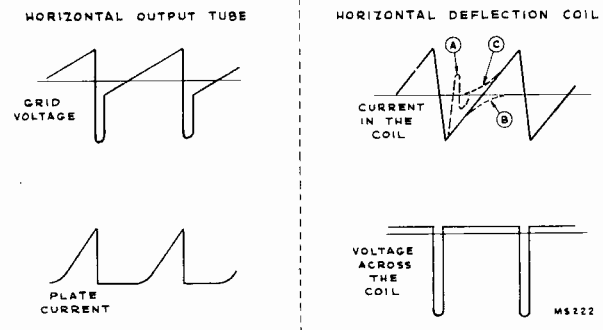

Figure 9—Horizontal Sweep Waveforms
tube plate so that it is non-conductive, there is essentially no load on the circuit and it oscillates vigorously for one half cycle. If the reaction scanning tube were not present, the circuit would continue to oscillate as shown in Figure 9 (A). This condition, however, is not permitted. One half cycle of oscillation is permitted because at the end of such a time the current in the deflection coil has reached a maximum in the opposite direction to which it was flowing at the end of the trace period. This reversal of the direction of flow of current was the requirement for retrace and it was accomplished in the allotted 7 microseconds.
As mentioned previously, if the coil were not damped, it would continue to oscillate at its natural frequency as shown in Figure 9 (A). To prevent such an oscillation the reaction scanning tube is brought into action. This tube is in a modified damper circuit which is effectively connected across the deflecting coil.
If no additional energy were fed into the coil, the field would fall to zero and the Kinescope beam would come to rest in the center of the tube. In such an r-l circuit, as the current approaches its final value, it does not do so linearly but asymptotically as indicated in Figure 9 (B). It is therefore necessary to have the output tube begin to supply power to the deflection coil before the energy in the coil is completely dissipated. Figure 9 (C) shows the shape of the current supplied by the output tube. Although the currents supplied by the output tube and by the decaying field are curved at the cross over point, together they produce a coil current that is linear.